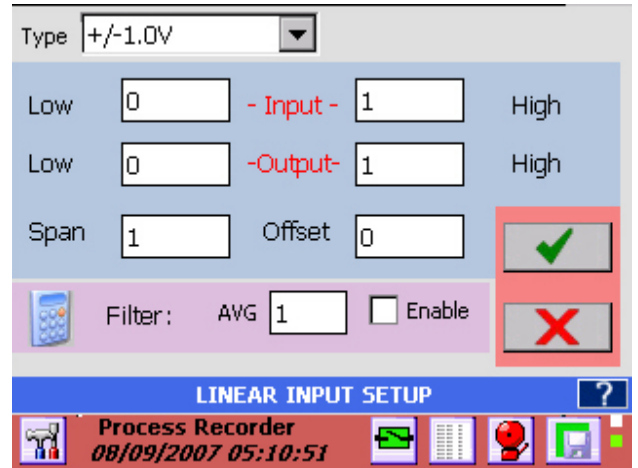

Figure 5-3 Linear Input Setup
**Input/Output Ranges:** Figure 5-3 shows the ±1.0 Volt input range for the analog input. The **Input** and **Output** ranges LOW and HIGH values set the scaling for the channel. They default to the zero and high values for the range so that the channel reads the full scale range. As shown when the input is zero the output will read zero, and when the input is 1 volt the output will read 1. If the Output - HIGH was set to 100 then the output would be 0 to 100 for an input of 0 to 1V. The input is effectively multiplied by the (Output High)/(Input High).
The Resistance setup dialog window is similar to that in Figure 5-3 above. Resistance measurement uses a constant current source through the load, measures the voltage and computes: